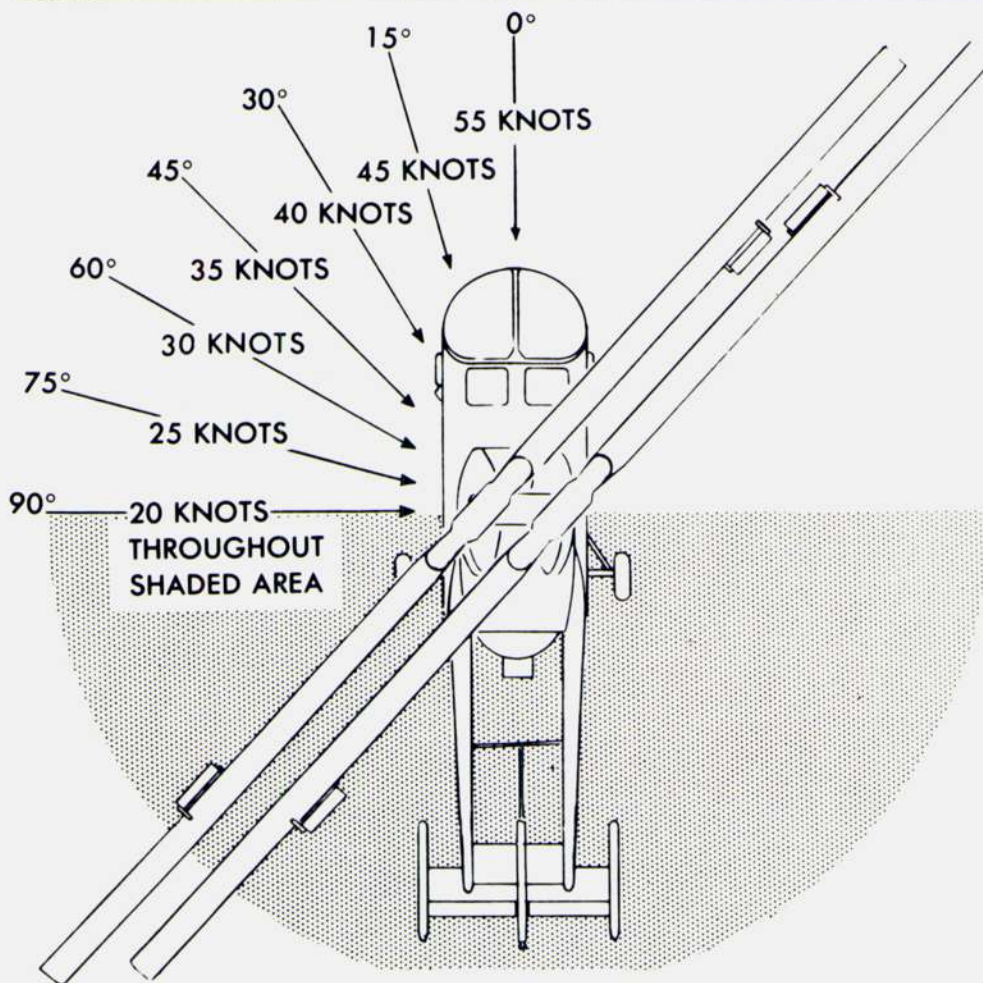

Figure 5-2
The recommended maximum wind velocities for engaging and disengaging the clutch and rotors are shown in figure 5-2. Exceeding these limits may cause damage to the droop stops and the lag stops.
- Refer to figures 5-2 and 5-3, and to text for additional information on manifold pressure.